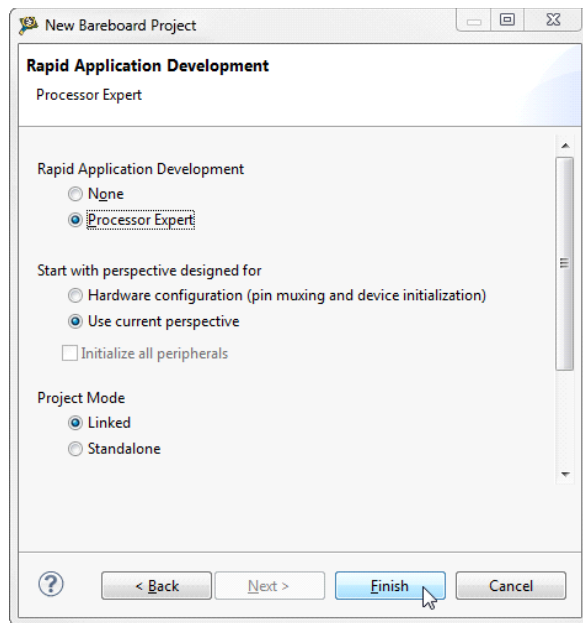

Figure 12. Select the Processor Expert option
3. Select the **Processor Expert** option, and then click **Finish** (see Figure 12).